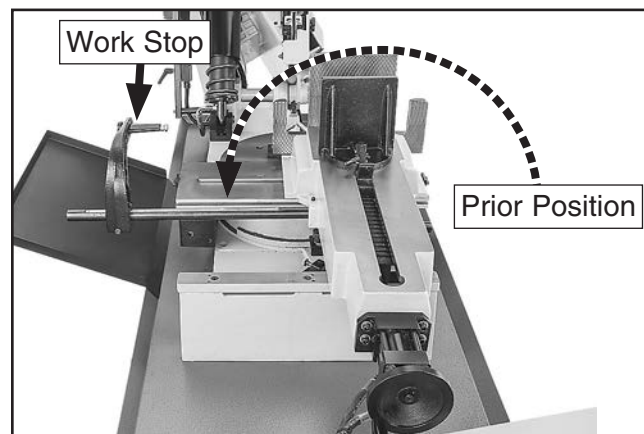

Figure 41. Work stop repositioned.
1. To use work stop on opposite side of machine for straight or angle cuts (see **Figure 41**), remove work stop arm from stop rod, then remove stop rod.